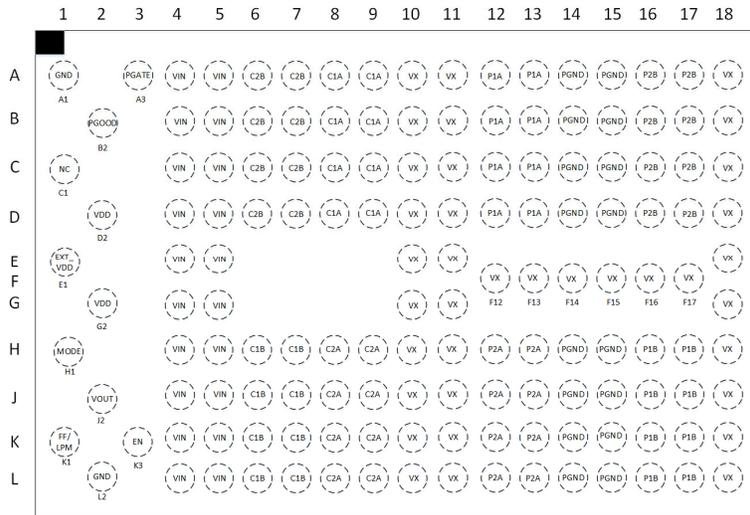

Figure 17. PE25208 Device Pinout (Top View: Bumps Down)
In the PE25208 parallel EVK, both PE25208 devices are placed according to the Figure 17 pin map, where the input voltage (VIN) is at its left side and the output voltage that requires filtering (VX) is at the right side.